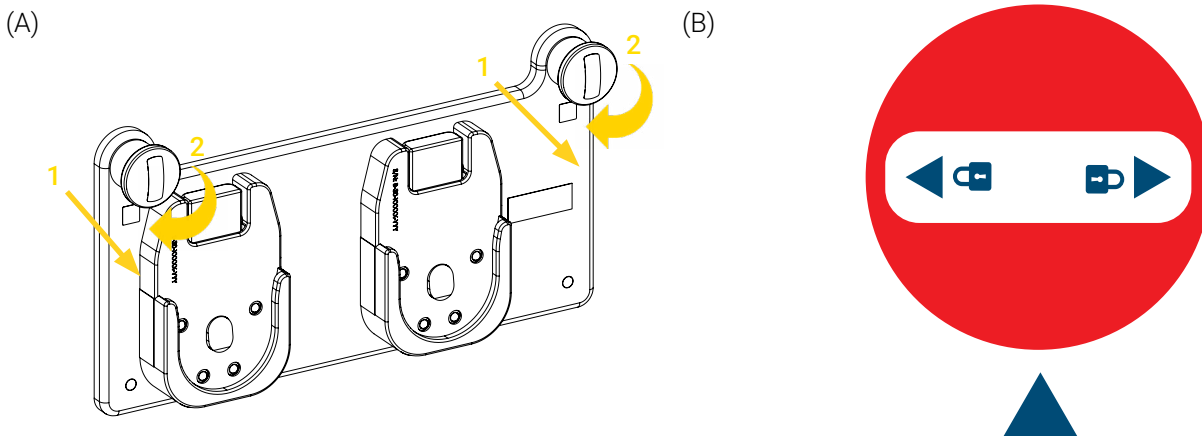

Figure 11: Unlocking the mounting system (Mounting Plate - FL with Micro Bases illustrated)
3. Pull and turn both (2X) rotary locks clockwise or counterclockwise until the indicator ▲ is misaligned with the locked position 🔒 to unlock the mounting system (Figure 11).